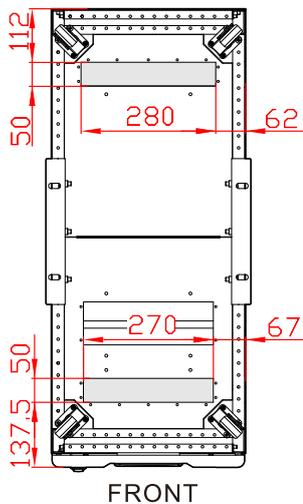
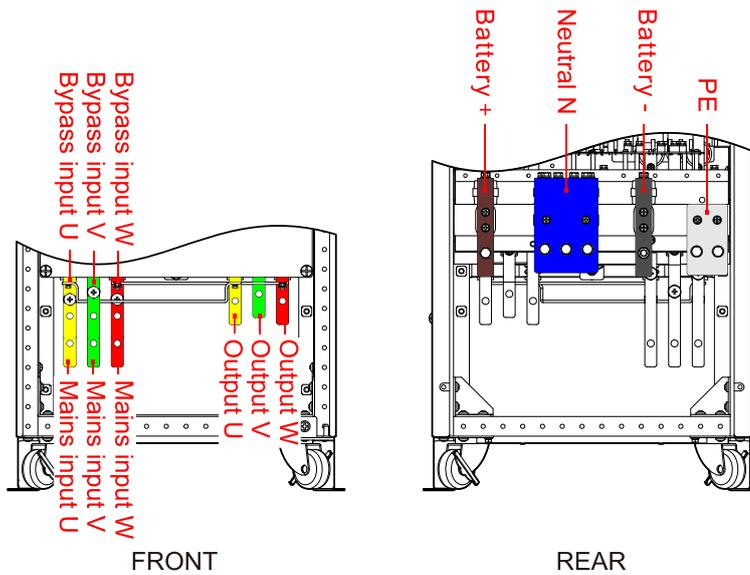

Figure3-29 Down wiring holes diagram of 60K, 80K, 100K, 120K
Figure3-30 Wiring terminal diagram of 60K, 80K, 100K, 120K
Step 2 Lead the input cables, output cables, battery cables and PE go through the bottom wiring hole (the diagrams of down wiring hole are as shown in Figure3-29), and connect the cables with terminal bars according to Figure3-30 respectively, then fasten the bolts.